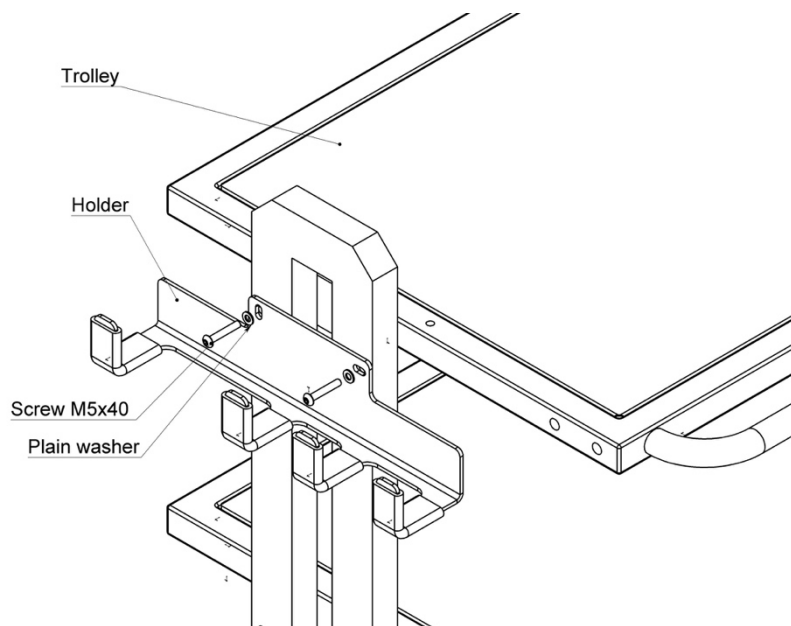

Fig. 16. The fixation of holder on the trolley.
2.4.2.2 Secure K-8 coil holder (Fig. 16) on the trolley according to technical manuals for the holder and the trolley. If the trolley is not included to delivery set, the coil holder can be fixed on any vertical surface, for example on the wall.